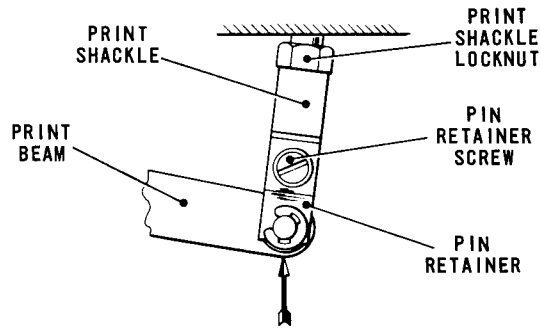

Fig. 4.47 PRINT BEAM/PRINT SHACKLE LINKAGE
- 54.1 Ensure that the top end of the print spring change lever is towards the rear of the machine. Stand the machine on its back and check that a force of approximately 3 lb (1.36 kg), applied to the print beam, Fig.4.47, at and in the direction of the arrow, just moves the beam.
- 55.2 To adjust, continue to turn the machine by hand until the typehead moves forward to print. Stand the machine on its back, withdraw the screw securing the pin retainer, Fig.4.47, and remove the retainer from the print shackle. Disconnect the print beam from the print shackle and slacken the shackle locknut. Turn the shackle clockwise to increase or counter-clockwise to decrease the dimension. Re-connect the print beam to the shackle, refit the pin retainer and tighten the retainer screw.